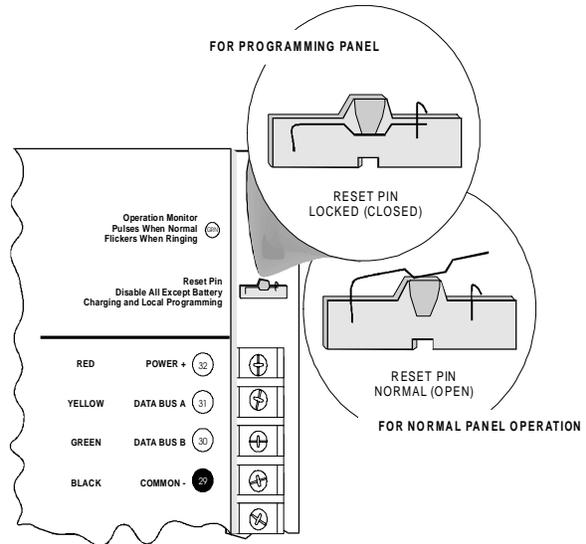

Figure 19: Reset Pin
Control/Communicator and D8132 (or other power supply) must share COMMON: Note that Figure 19 shows the common from the D8132 module connected to both the Command Centers' common and the common on the Control/Communicator.
1. **Lock Reset Pin:** See Figure 19 (right) and Locking the Reset Pin.